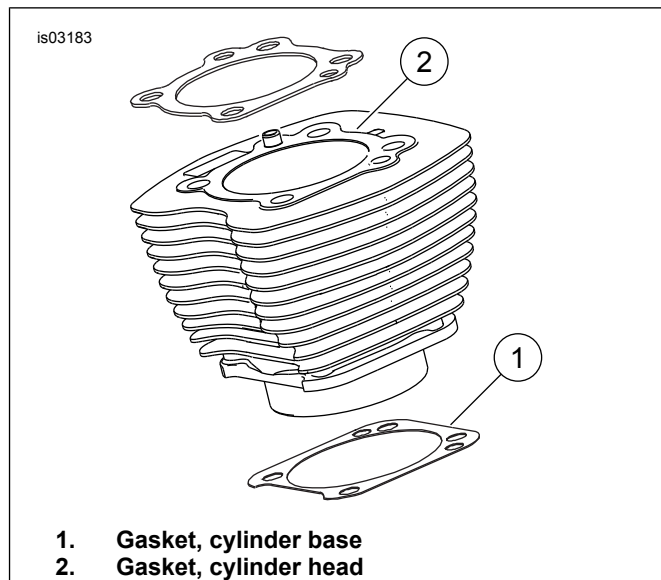

Figure 1. Cylinder Gaskets
- See Figure 1. The 103 mm (4.060 in) cylinder base gasket (1) and cylinder head gasket (2) eliminate the need for O-rings. Do not use O-rings on cylinder dowels or cylinder spigots.
- When installing new base gasket (1), install with embossed side down and concave side up.